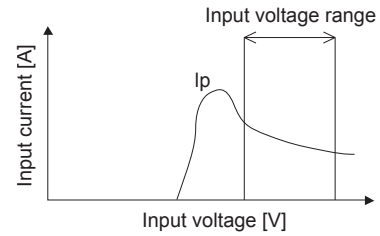

Fig.3.2 Input Current Characteristics
■ Choose a front end power supply that can supply enough current  $I_p$  (Fig. 3.2) for starting up the power module.